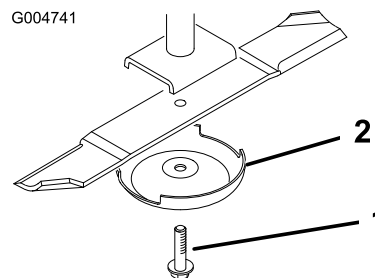

Figure 100
2. Grasp the end of the blade using a rag or thickly padded glove. Remove the blade bolt, anti-scalp cup, and blade from the spindle shaft (Figure 100).